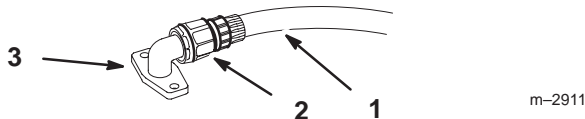

Figure 1
3. Attach fitting to coupling on hose (Fig. 1).